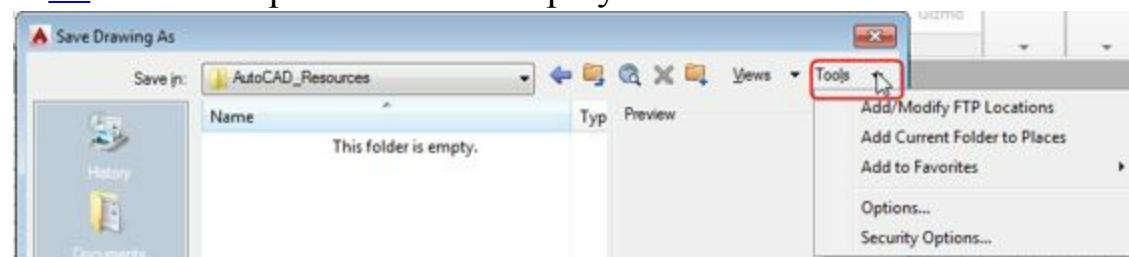

Figure-31. Tools drop down
- In the **Save Drawing As** dialog box, click on the down arrow next to **Tool** button; refer to Figure-31. A list of options will be displayed.